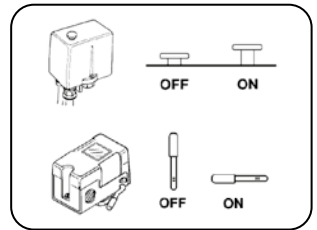

FIGURE 8.3
- Check the pressure switch (Figure 8.3);